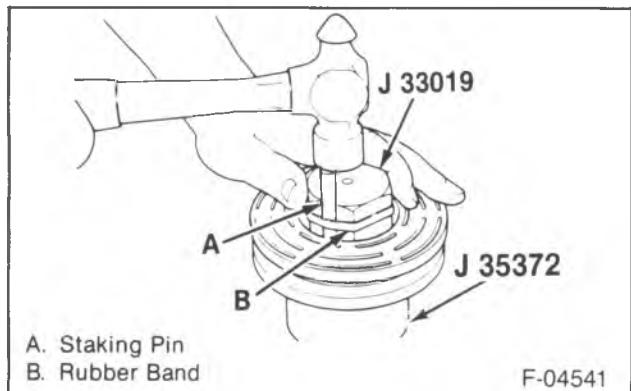

Figure 14—Staking the Pulley Bearing in the Pulley Bore
- Seat the pulley and bearing assembly on J 35372 to support to the hub under the staking pin location (figure 14).